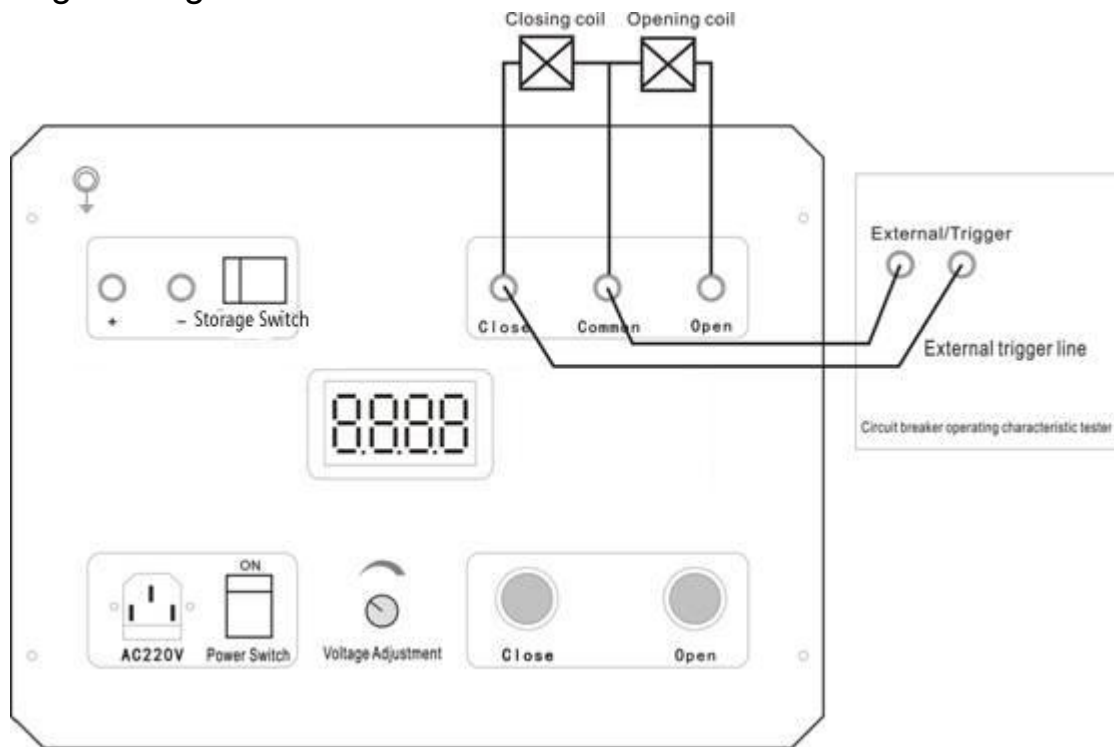

Figure 3
**iii.** When doing the closing test of the output power supply of the high-voltage switch tester, the connection method is shown in Figure 3. The closing, opening and common interface of the tester are respectively connected to the high-voltage switch, and then the two external triggering test wires of the high-voltage switch are